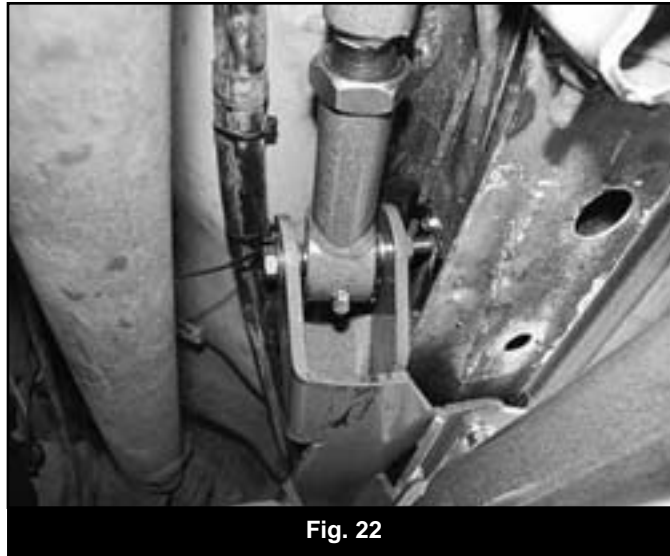

Fig. 22
59. Install the new upper control arms into the new upper control arm pockets in the crossmember (Fig 22). Fasten the arms with 7/16" x 3-1/2" bolts and 7/16" SAE washers into the welded nut on the crossmember. Use Loctite® on the bolt threads.